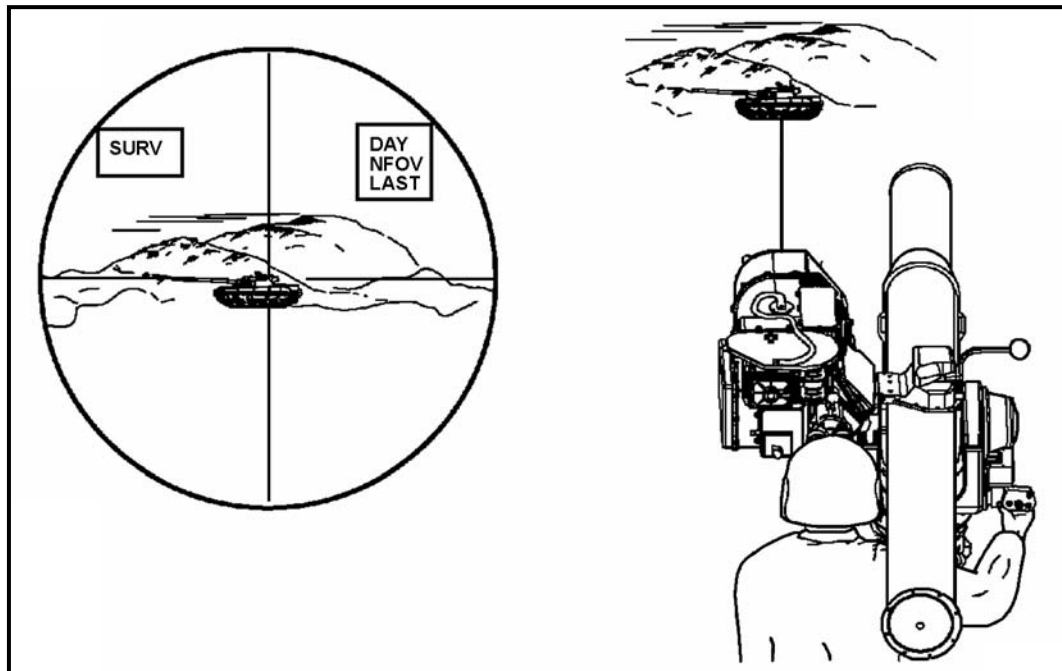

Figure 3-15. Daysight NFOV selected.
- (1) Scan sector of fire for targets.
- (2) After detecting target, press FOV switch and select NFOV (Figure 3-15).